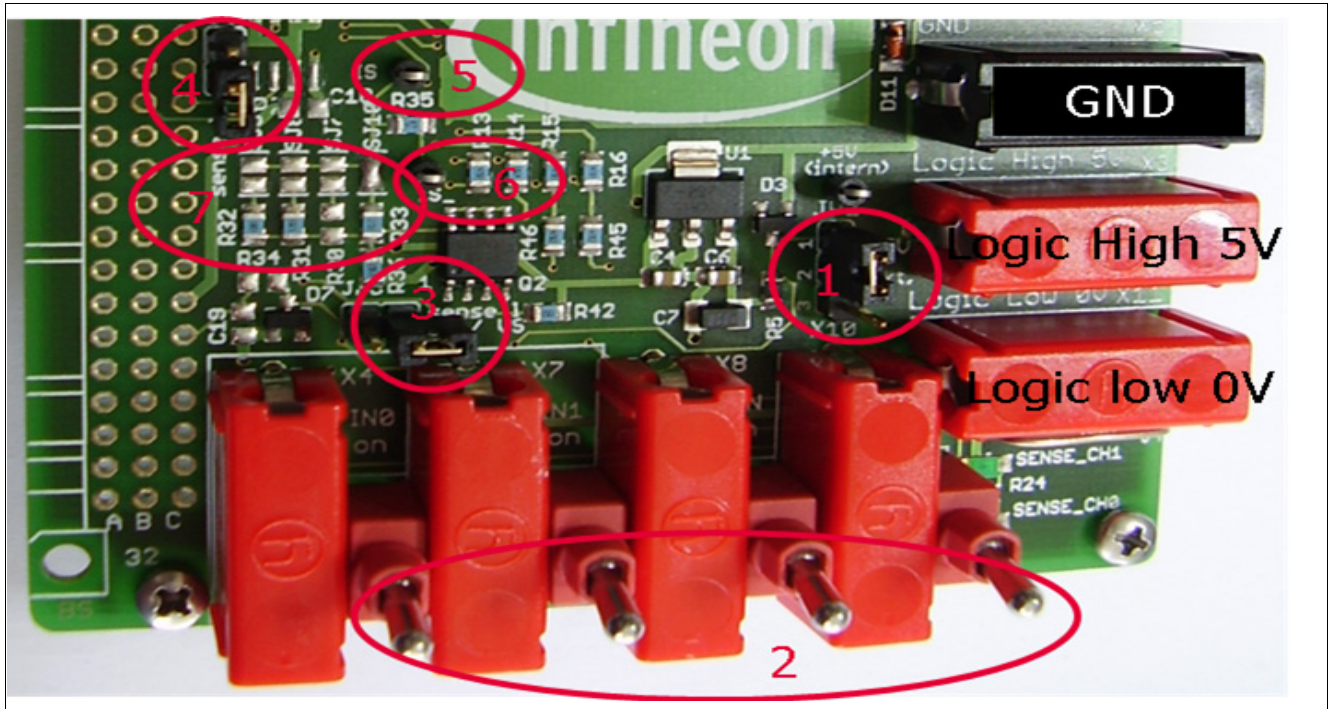

Figure 4 Application Diagram
- Logic High 5V...At this pin the logical high voltage which is forced to the logical pins of the PROFET+ could be controlled from an external supply. Only applicable with the switches at the right side on the motherboard. The JP2 has to short point 2 and 3 to activate the external voltage. If JP2 shorts 1 and 2 the internal 5V is used (see Figure 4).